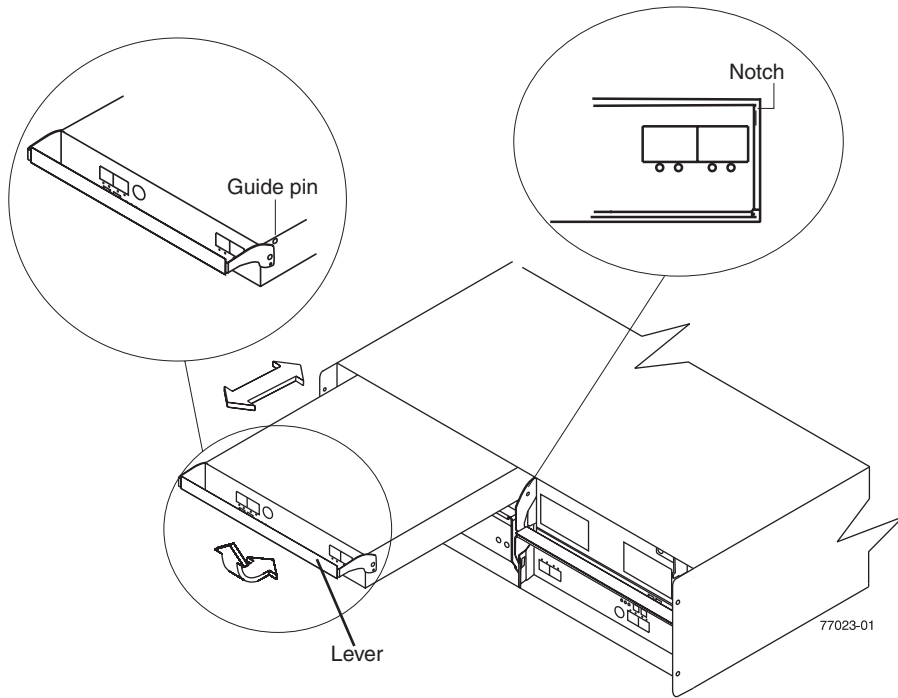

Figure 18. Removing and replacing an Environmental Service Module (ESM)
2. Slowly pull the lever away from the chassis to remove the ESM from the bay, as shown in Figure 18 on page 36.